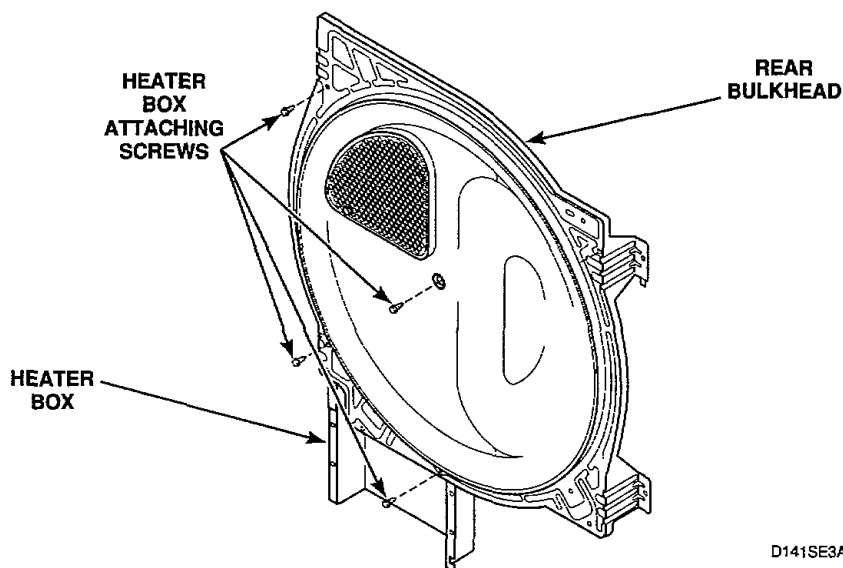

Figure 45
- n. To remove heater box from rear bulkhead, refer to *Figure 45*.